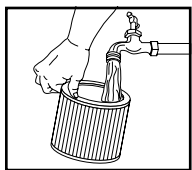

FIGURE 23
28. Or rinse (from the inside of the filter) with water. **FIGURE 23.** Dry completely (approximately 24 hours).